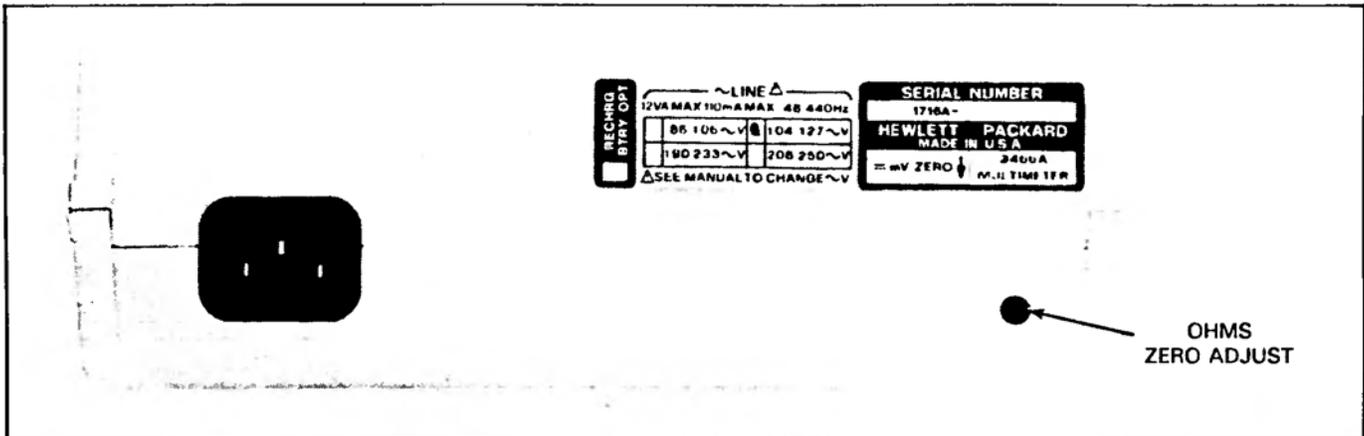

Figure 3-14. Option Decal and Ohms Zero Adjust
- c. Adjust the ohms zero potentiometer (see Figure 3-14 for the potentiometer location) for a 0.000 reading on the display.
3-40. The option decal is affixed to the rear of the Multimeter. An example is shown in Figure 3-14.